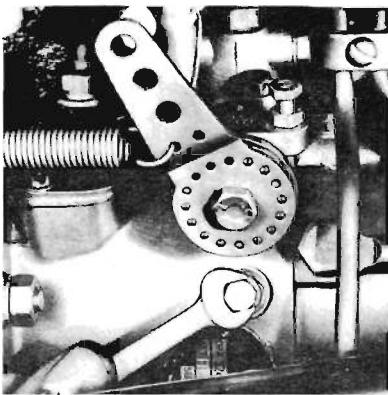

Fig. 8
2. Slacken vent valve fitted on one of the two hydraulic head locking screws (see fig. 8). Unscrew vent plug on top of fuel filter where fitted.